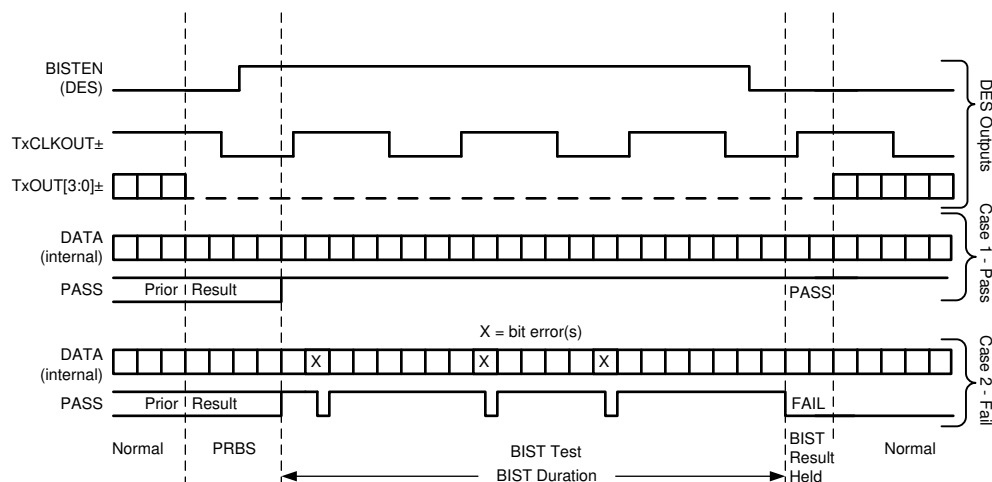

Figure 15. BIST Waveforms, in Conjunction With Deserializer Signals
Step 4: The link returns to normal operation after the deserializer BISTEN pin is low. Figure 15 shows the waveform diagram of a typical BIST test for two cases. Case 1 is error-free, and Case 2 shows one with multiple errors. In most cases, it is difficult to generate errors due to the robustness of the link (differential data transmission and so forth), thus they may be introduced by greatly extending the cable length, faulting the interconnect medium, or reducing signal condition enhancements (Rx Equalization).